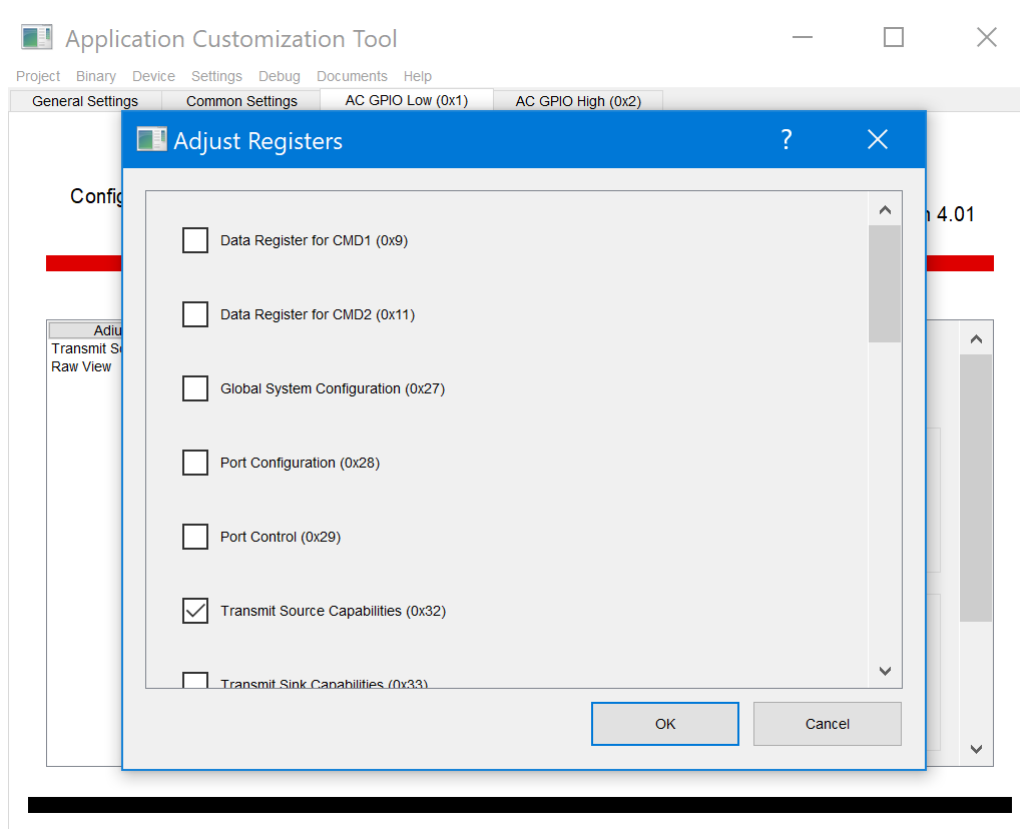
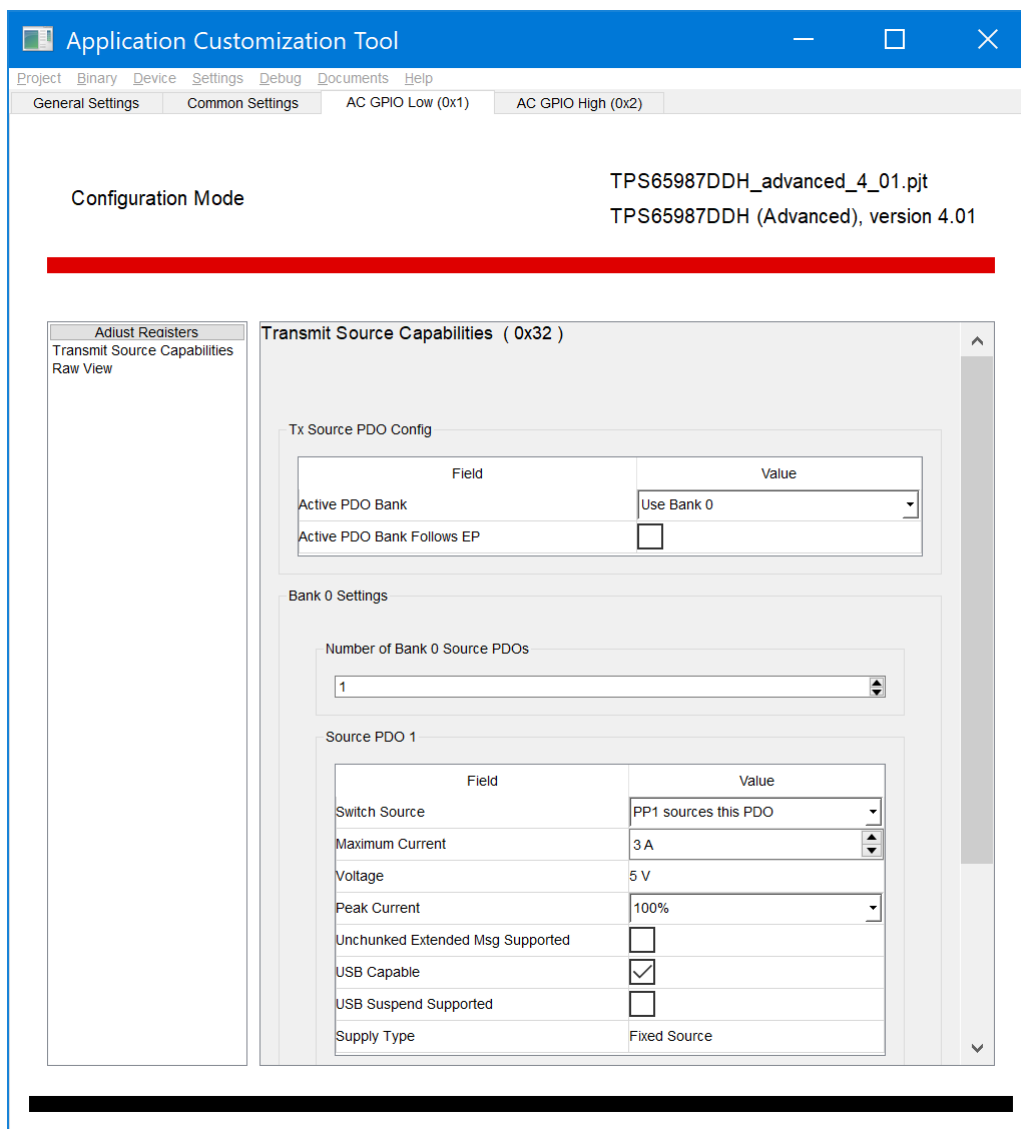

Figure 3-5. Adjust Registers in AC GPIO Low (0x1)
Figure 3-6. App Config GPIO Set Event, GPIO Low Settings Example
- Adjust Registers in *AC GPIO Low (0x1)* to set the behavior when GPIO4 goes from high to low. External hardware event can trigger the PD controller to change configuration. In this example, GPIO4 high to low transition would configure Transmit Source Capabilities register (0x32) with one PDO as shown in Figure 3-5 and Figure 3-6.